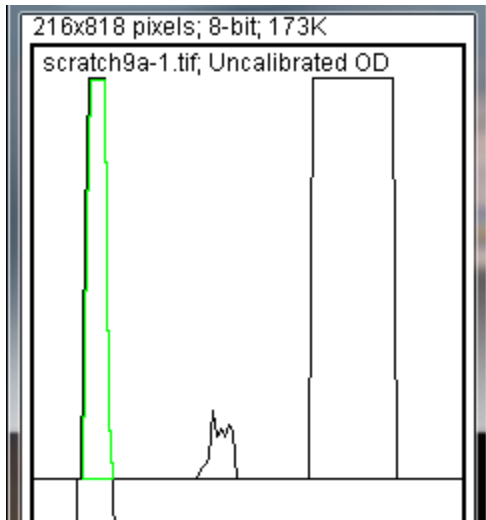

Figure 9. Click inside the 1st peak of interest with the Wand tool. The peak should be highlighted and a measurement should pop up in the Results window.
14. Using the spacebar and mouse, drag the profile plot back down until you are back at the first lane. With the **Wand** tool, click inside the peak (Figure 9). Repeat this for each peak as you go down the profile plot. For each peak that you highlight, measurements should pop up in the Results window that appears.